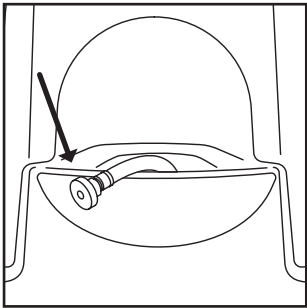

Fig. 2
1. Fill up the freshwater solution tank with tap water. If using the EZ Fill hose option, remove the hose from the solution tank, (Fig. 2), and connect the hose to a water faucet.
1. Fill up the freshwater solution tank with cool water. If using the EZ Fill hose option, remove the hose from the solution tank, (Fig. 2), and connect the hose to a water faucet.